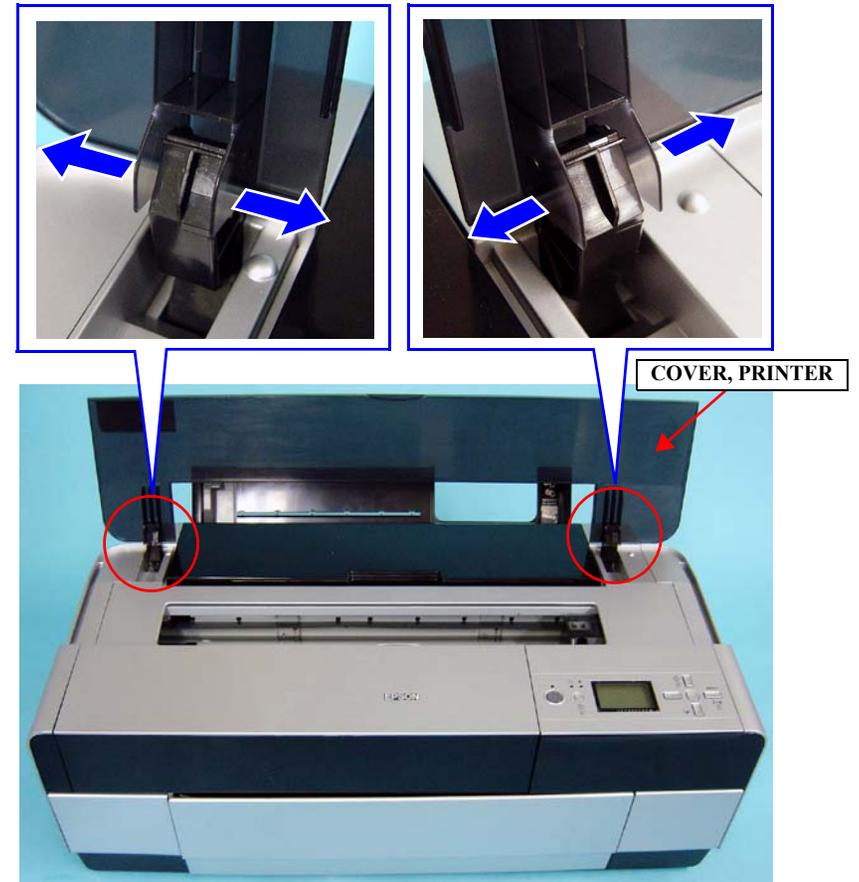

Figure 4-11. Removing the COVER, PRINTER
2. Widen the parts shown in *Figure 4-11* to release the COVER, PRINTER from the two bosses (left and right), and remove the COVER, PRINTER.